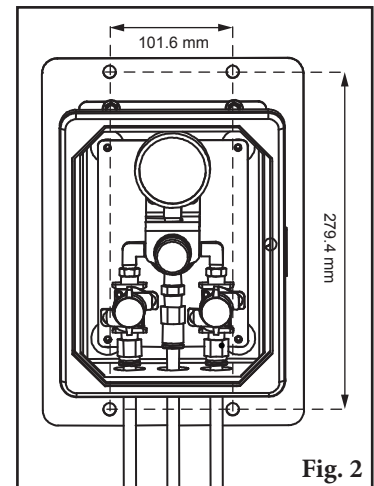

Fig. 2
2. **Mounting PAT Control Box.** Find a sturdy/durable location to mount the control panel within 10' (3m) of the PAT Air Tank and with 10' (3m) of the longest run to the cleaner's tensioner air bag connection. Drill four (4), Ø10 holes on the hole centers show in Fig. 2, and secure the tank using four (4) M8 bolts. Position the PAT Control Panel door can be opened without obstruction, the pressure gauge can be easily read, and both the isolation values and regulator valve handles can be accessed.